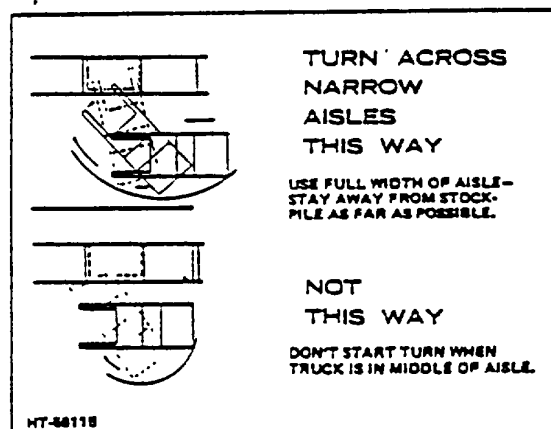

Figure 4-10. Aisle Turning Procedure
- n. Take full advantage of operating space in narrow aisles. Stay as far away from the stock piles as possible but allow for rear-end swing (Fig 4-10).